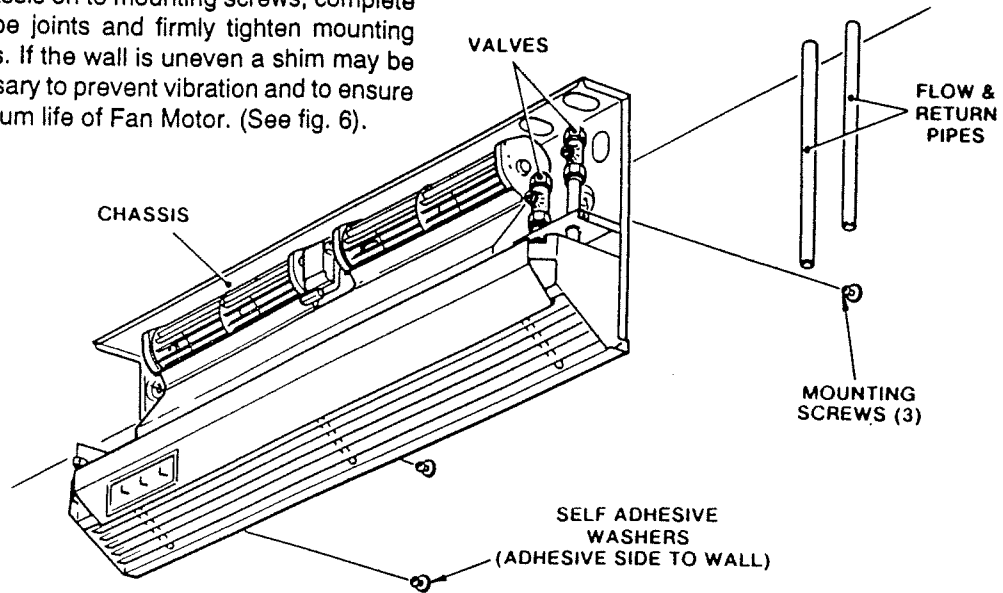

Figure 6
- Fit chassis on to mounting screws, complete the pipe joints and firmly tighten mounting screws. If the wall is uneven a shim may be necessary to prevent vibration and to ensure maximum life of Fan Motor. (See fig. 6).